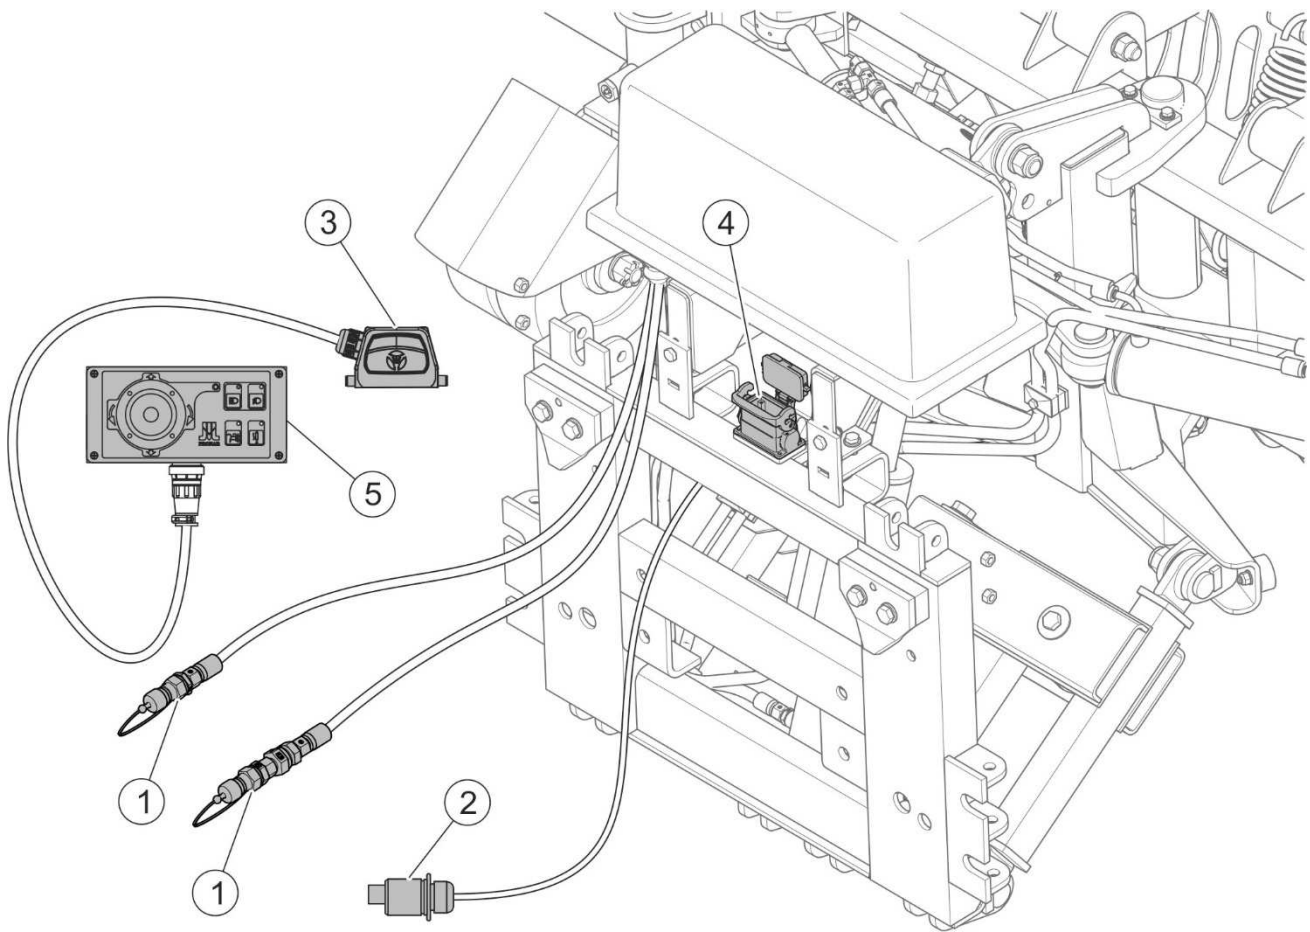

FIGURE 4.5 Connecting the snowplough's hydraulic system and electrical system
The pair of hydraulic quick couplers (1) (FIGURE 4.5) should be connected to the quick couplers of the section of the carrying vehicle's external hydraulic system.
- A) Bring the snowplough set on the parking stands with wheels close to the carrying vehicle's mounting plate. Connect one pair of the snowplough's hydraulic system conduits to corresponding connectors of the carrying vehicle's external hydraulic system (FIGURE 4.5). Connect the snowplough's control panel wiring harness to the control socket on the snowplough. Place the control panel in the operator cab in an easily accessible place. Connect the snowplough's electrical system connection to the socket of the carrying vehicle's power supply wiring harness (FIGURE 4.3).